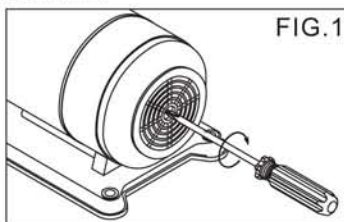

FIG. 1
3. Insert a screw driver cross into the shaft slot, and turns the shaft 2-3 rounds to check if the pump runs normally, then open one faucet on the delivery side, then turn the power switch ON. (FIG. 1)